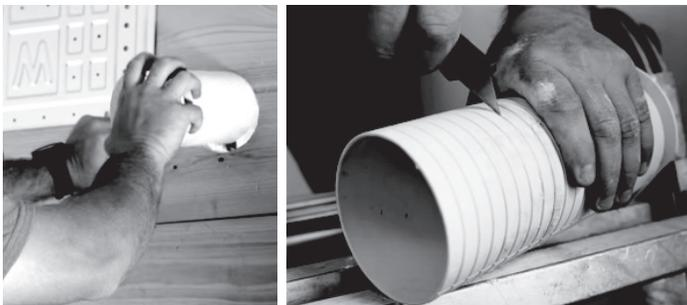

Fig. 4.4
3. Insert the protective wall sleeve through the hole of the inside wall, noting the amount it protrudes from the exterior wall. Then, trim the excess, with a utility knife or a saw, to make it flush with the exterior wall. This will protect the edges of the hole and help seal it when you finish the installation process (**See Fig 4.4**).